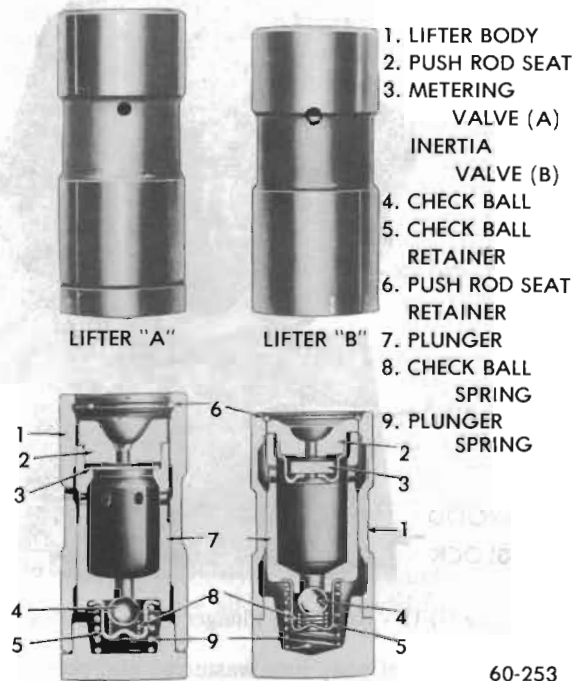

Figure 60-13 - Hydraulic Valve Lifter Parts
NOTE: Two types of hydraulic lifters are used. Both types of lifters operate on the same principle and are serviced basically in the same manner. The complete lifter assemblies are interchangeable but parts from one lifter are not interchangeable with another. Both lifters are easily identified by the outside configuration of the lifter body. For purposes of identification we refer to them as lifter "A" and lifter "B". See Figure 60-13.
9. Remove the push rod seat and metering valve (lifter "A") or the inertia valve assembly (lifter "B"). See Figure 60-13.
20. Hold plunger in vertical position with feed hole up, then rinse and install the check ball, checkball spring, ball retainer, spring, and body over the plunger. See parts in Figure 60-13.